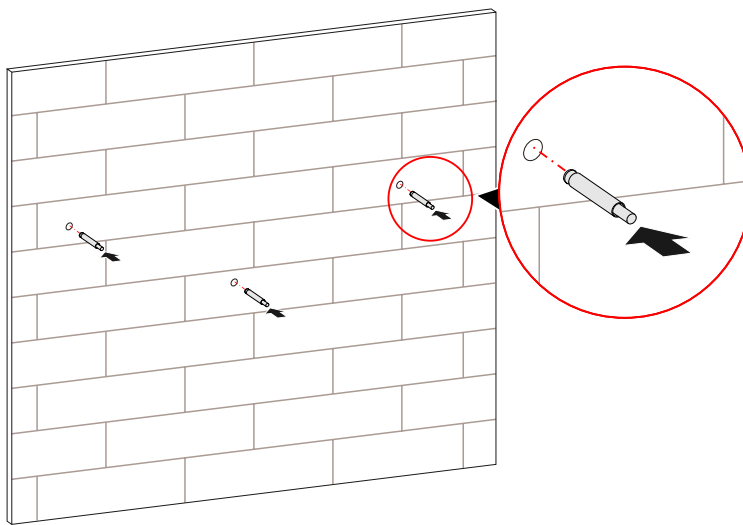

Figure3-9 Install expansion bolts
Step 3 Install the equipped three expansion bolts M6\*60 into the holes, as shown in Figure3-9.